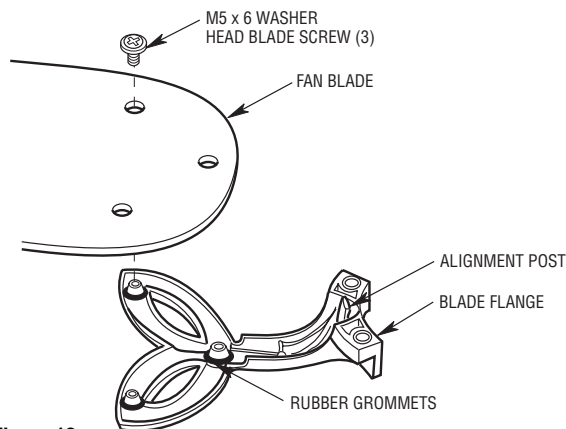
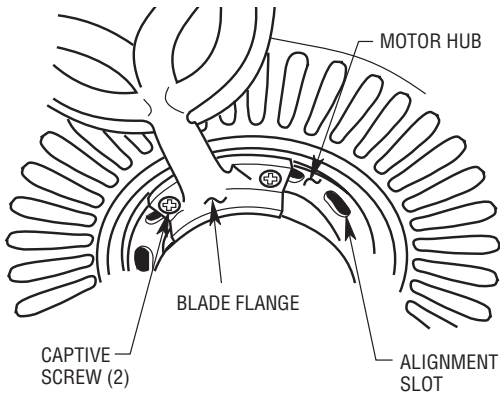

Figure 12
Figure 13
- 1. Make sure the three rubber grommets are firmly seated on each of the blade flanges. Then mount the blade flanges to the fan blades using three M5 x 6 washer head blade screws per blade (Figure 12).
- 2. Mount one blade assembly to the motor hub by mating the alignment post (Figure 12) of the flange with one of the alignment slots in the motor hub (Figure 13). Then tighten the two captive screws in the flange to secure the flange to the motor hub. Repeat this procedure for the other four blade assemblies. Make sure all screws are tightened.